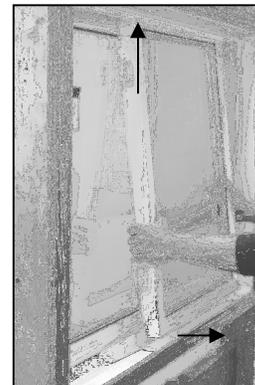

Fig 4b
2. Lift the sash up firmly into the head jamb and pull the bottom of the sash toward you (*fig 4b*).